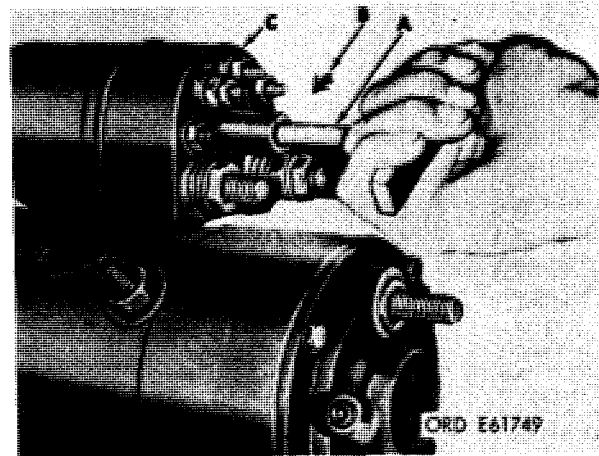

Figure 3-4. Disconnecting or connecting relay adjusting shaft using shaft adjusting tool.
*d.* Insert shaft adjusting tool (A, fig. 3-4) through access opening in relay cover. Engage end of tool with adjusting shaft and turn tool counterclockwise (B) until relay is free of plunger. Remove relay assembly (C).